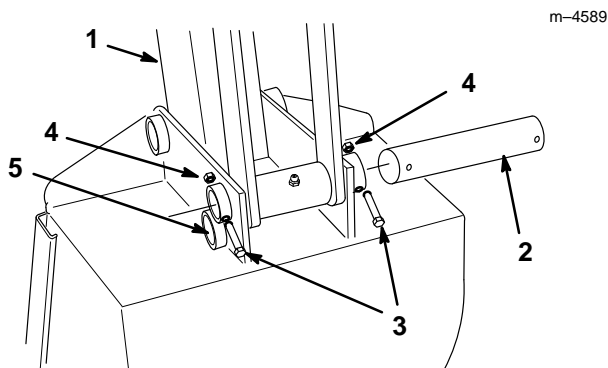

Figure 24
1. Remove the bolts and nuts securing the upper bucket pin (Fig. 24).
3. Swing the bucket up, aligning the second set of holes with the mounting holes on the dipperstick (Fig. 24).